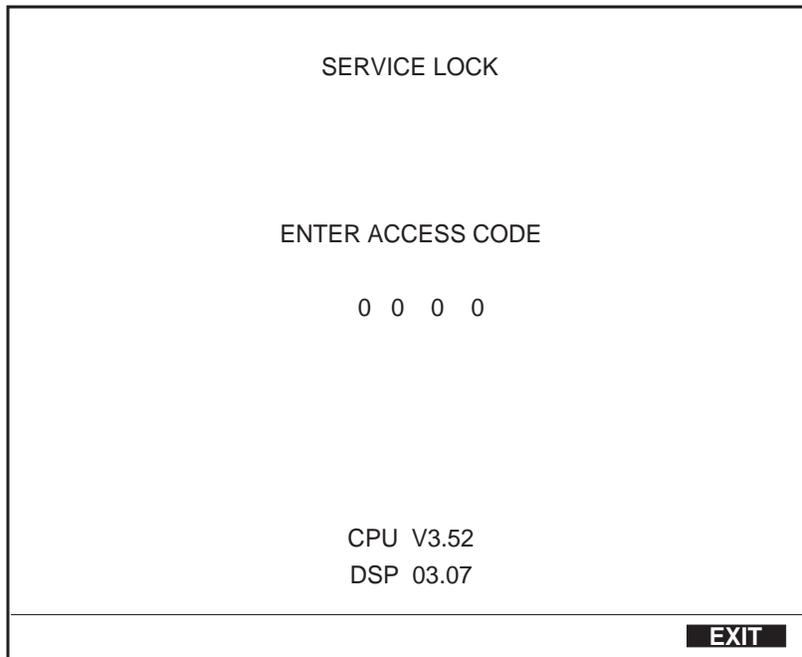

Figure 4-11. Service Lock Screen
2. Select the **SERVICE** softkey from the General Setup screen to display the Service Lock screen (Figure 4-11). The access code is displayed as 0 0 0 0.